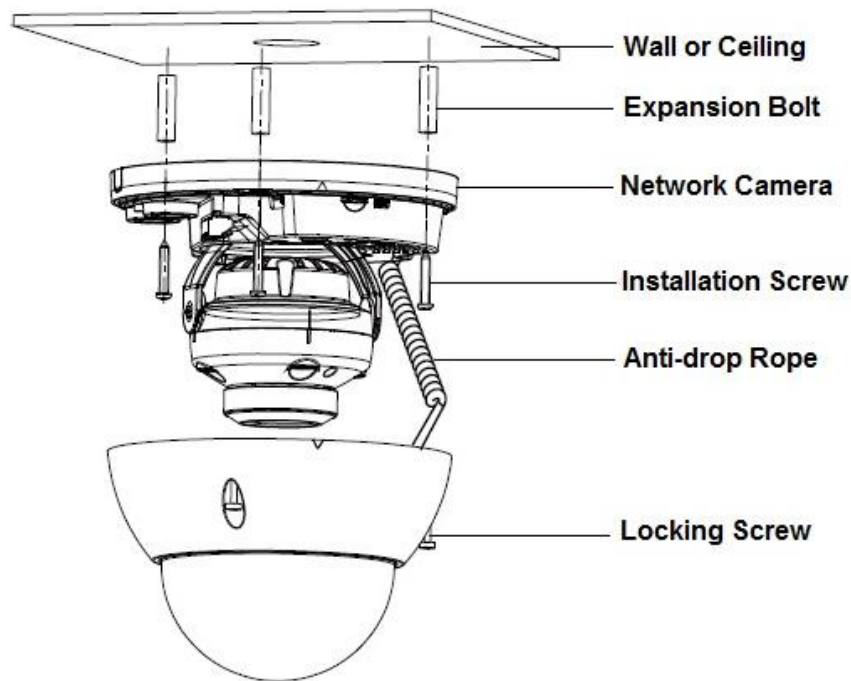
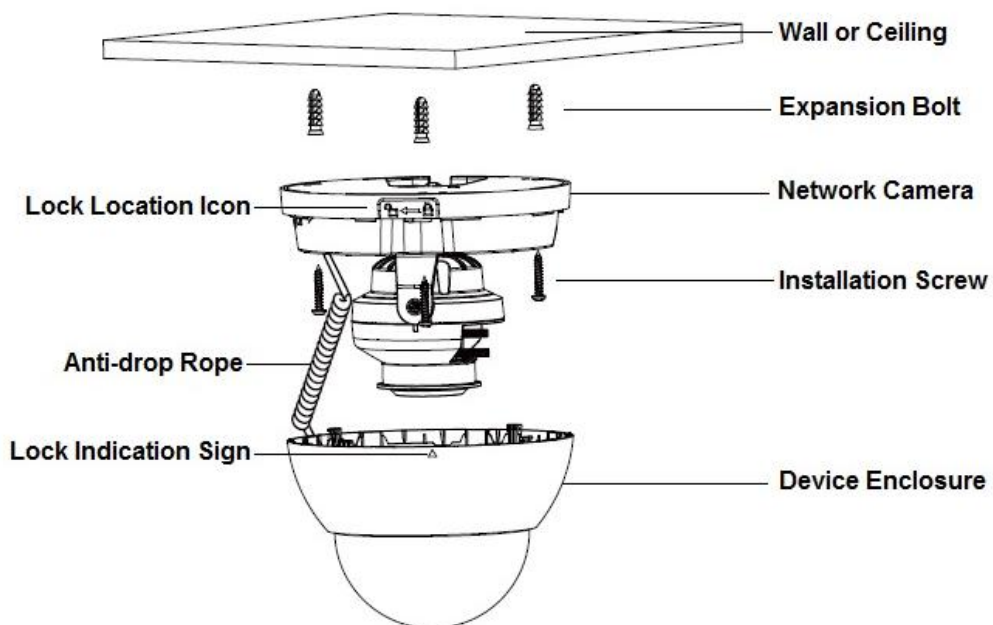

Figure 2-1
Figure 2-2
- The following installation figures are for reference only; please refer to Figure 2-1 and Figure 2-2 according to the actual product.